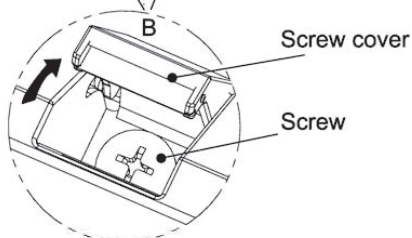

Fig. 10
- 3) In the B position, open the screw covers as shown in Fig. 10 and remove the screws. (Note: For some models, you need to remove 3 screws.)